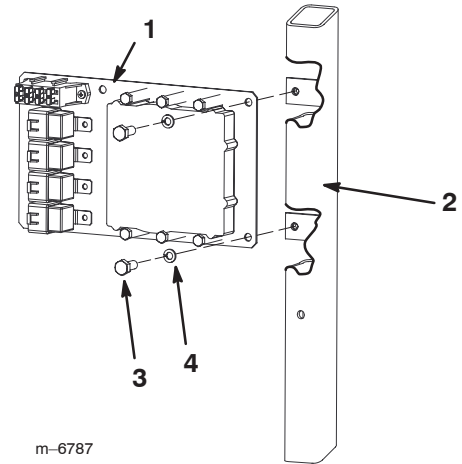

Figure 6
- For the Multi Pro 5600 and 5700 install the mount plate using 2 bolts (5/16 x 3/4 inch) and 2 lock washers (5/16 inch) as shown in Figure 6.